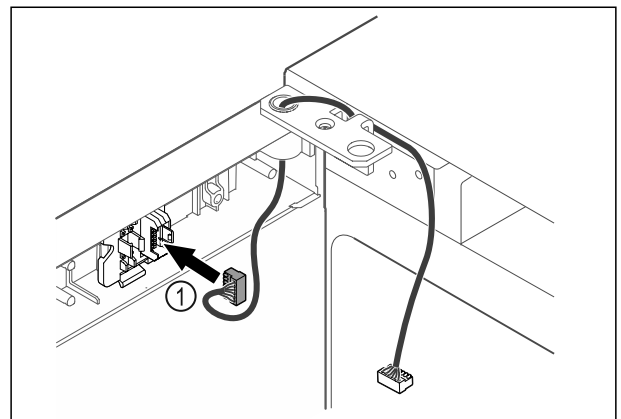

Fig. 48
- ▶ Put the plug *Fig. 48 (1)* in the plug holder.